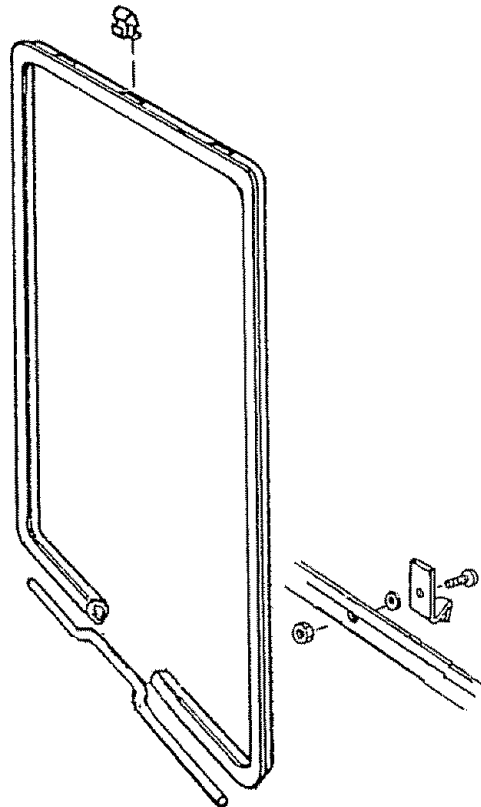
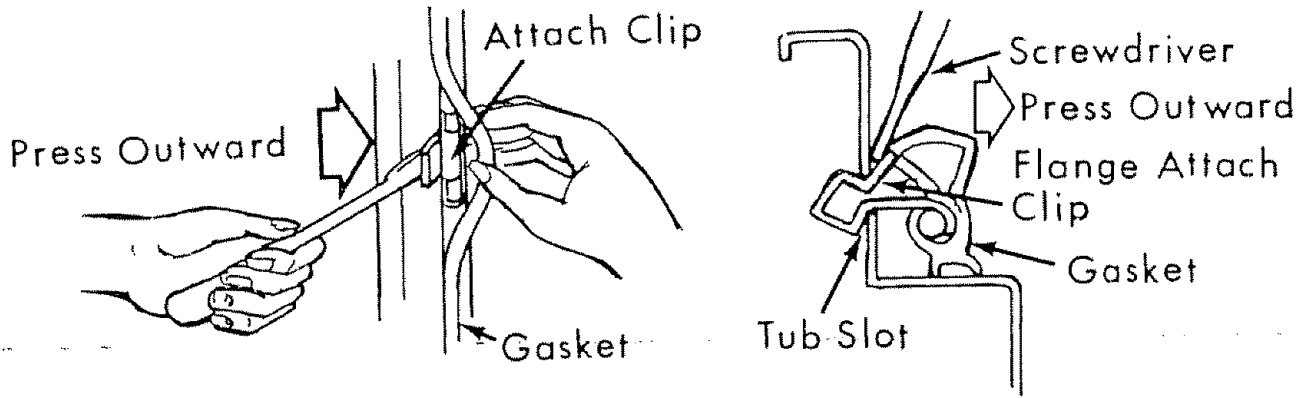

FIGURE 80
FIGURE 81
The tub gasket is a one-piece gasket as shown in Figure 80. The tub gasket is fastened with stainless steel clips. The illustrations, figures 81 thru 83 show how these clips are removed and replaced on sides and top. A gasket junction wire and one or two clips secure the gasket at the bottom dam.
- 1 To remove gasket, insert a small thin screwdriver blade under flange of the gasket attach clip and press outward. See Figure 81